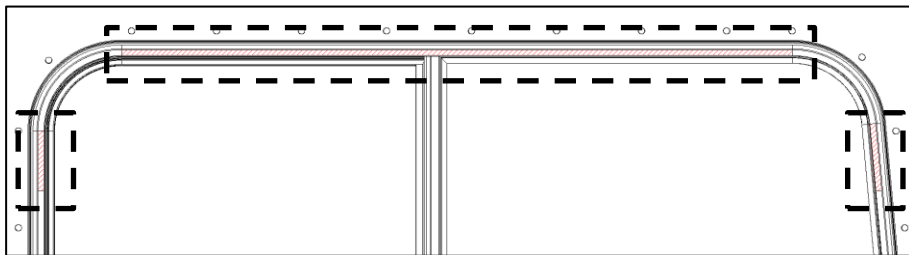

Figure 3
4. Apply 3M4298 adhesion promoter to the surface along the trim. See Figure 3 for the area where the promoter needs to be applied.